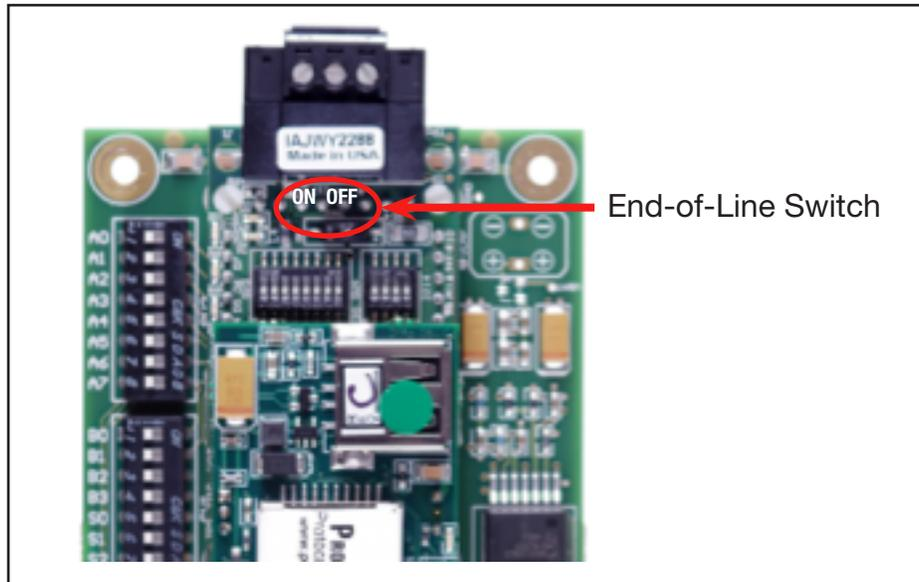

Figure 8: RS-485 EOL Switch
- If the ET9500 is the last device, then the End-Of-Line Termination Switch needs to be enabled (see **Figure 8**).